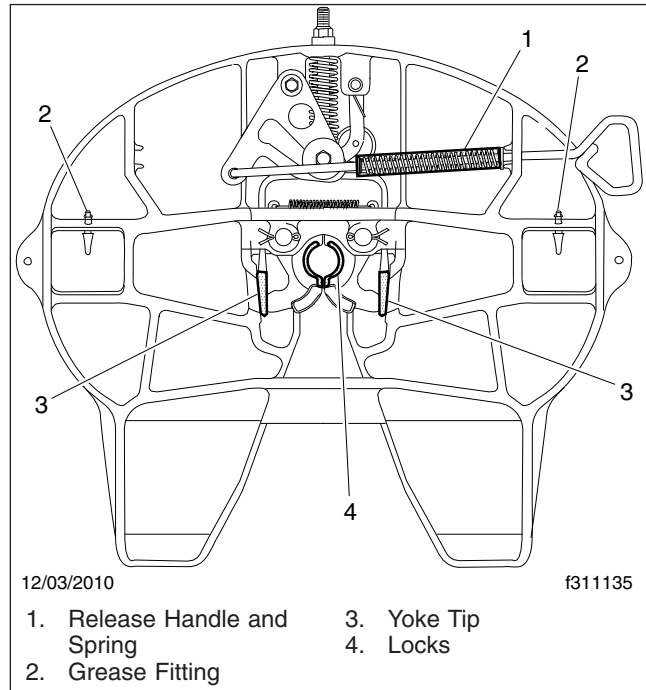

Fig. 12, Holland FW35 Fifth Wheel, Grease Lubrication
3. Grease the yoke tips, locks, and the release handle and spring; see **Fig. 12**. Grease the